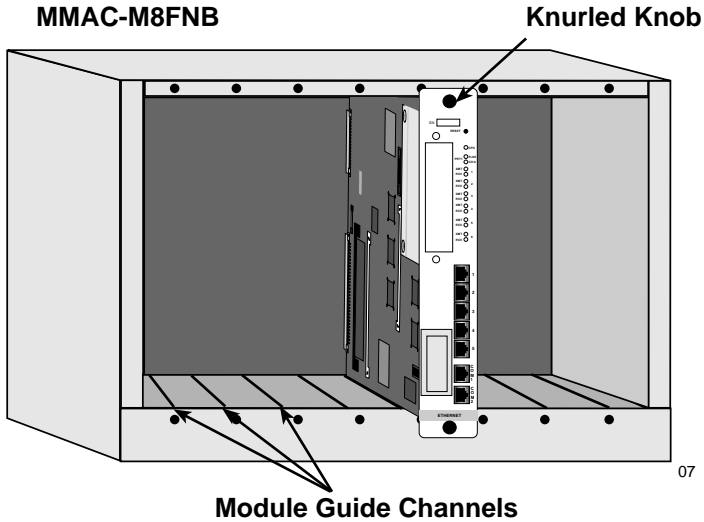

Figure 3-3 Installing the ESXMIM
3. Slide the ESXMIM (Figure 3-3) into the desired slot of the MMAC card cage.